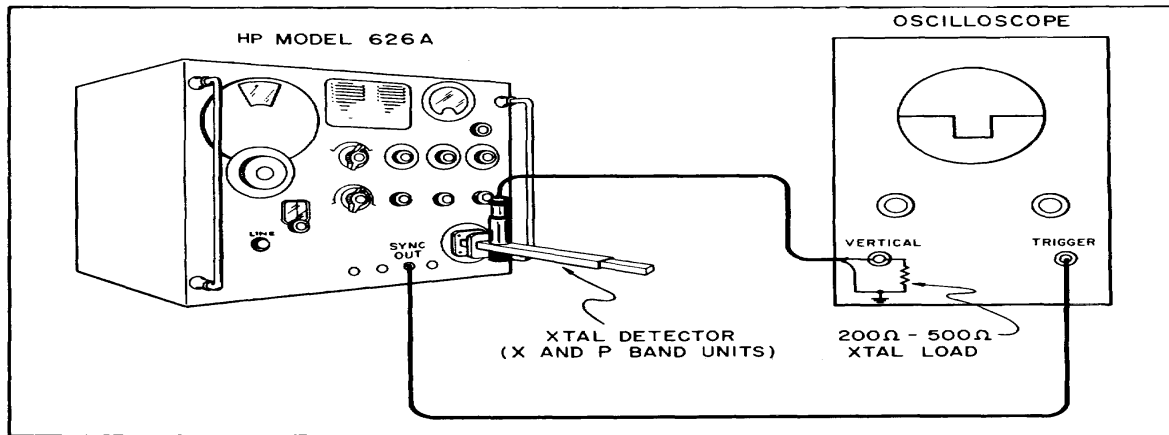

Figure 5-14. Calibration Test Setup
a. Connect test setup as shown in Figure 5-14.
a. Connect test setup as shown in Figure 5-14. DELAYED SYNC OUT signal may be used instead of the RF pulse.
- a. Connect test setup as shown in Figure 5-14.
- a. Connect test setup as shown in Figure 5-14 except that DELAYED SYNC OUT signal is to be used for triggering oscilloscope.